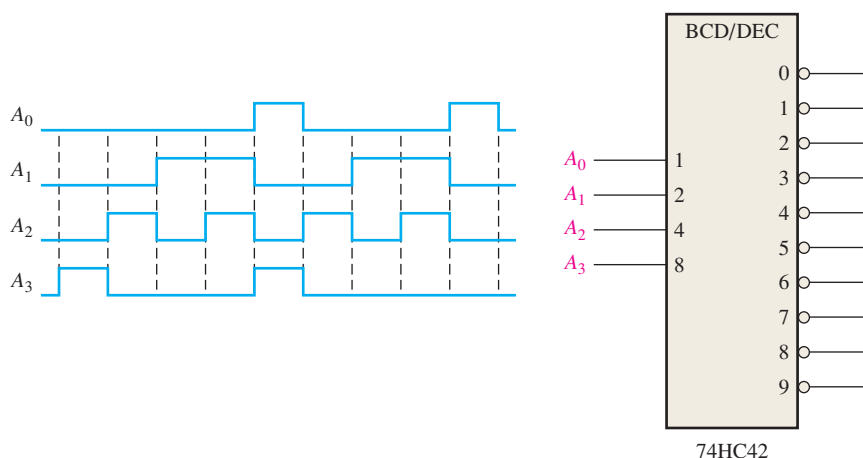

FIGURE 6-77
21. BCD numbers are applied sequentially to the BCD-to-decimal decoder in Figure 6-77. Draw a timing diagram, showing each output in the proper relationship with the others and with the inputs.